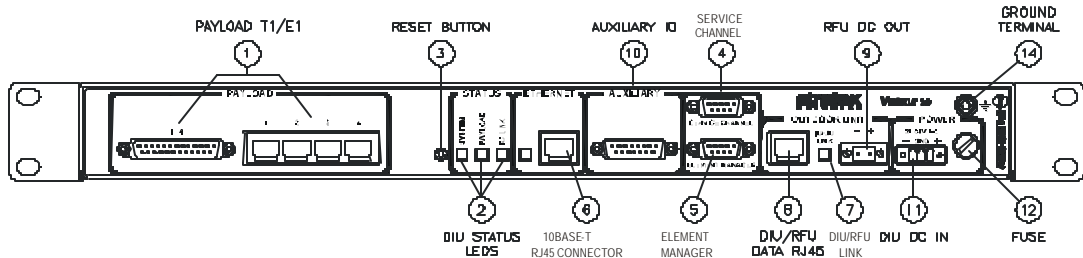

Figure 3-4. Velox LE 10 DIU Front Panel
- Velox LE 10 DIU (scalable up to 4 T1/E1) (see Figure 3-4 on page 3-2. Note that there are no controls, indicators or connectors on the back panel of this DIU).